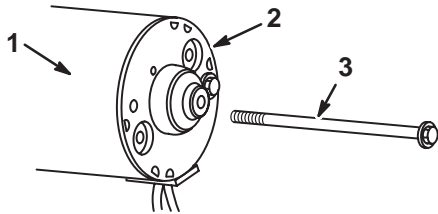

Fig. 97 – Removing Thru Bolts
- Three (3) screws holding gear cover and gear itself may now be removed.
- Remove starter motor thru bolts, Fig. 97.